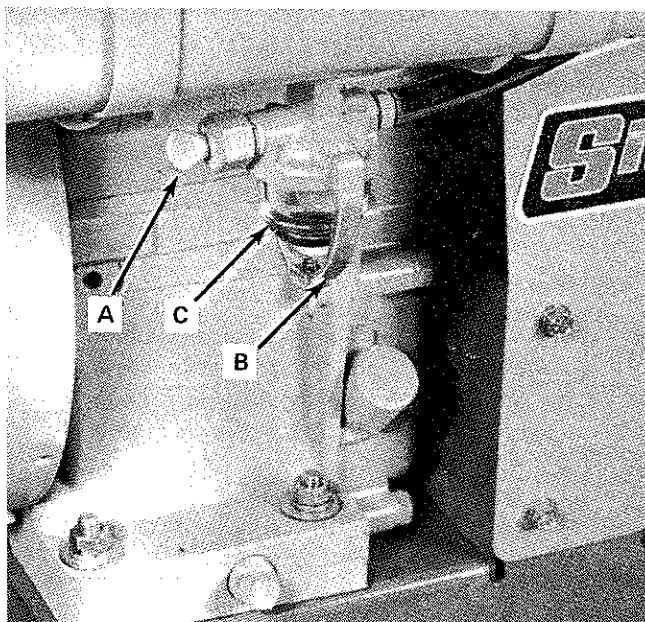

Figure 13. Fuel Filter Disassembly
1. Close fuel shut-off valve (A, Figure 13).
2. Loosen yoke (B) and remove the bowl (C), gasket, and screen.
5. Secure yoke (B) and open fuel shut-off valve (A).